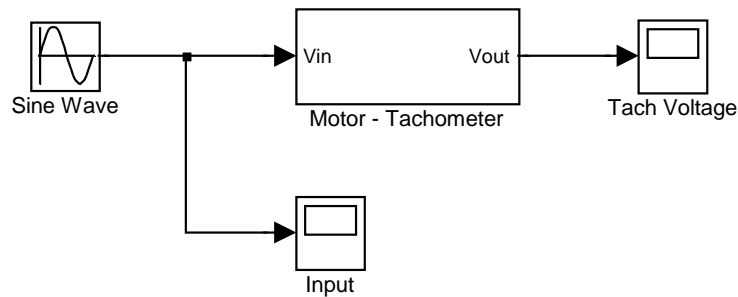
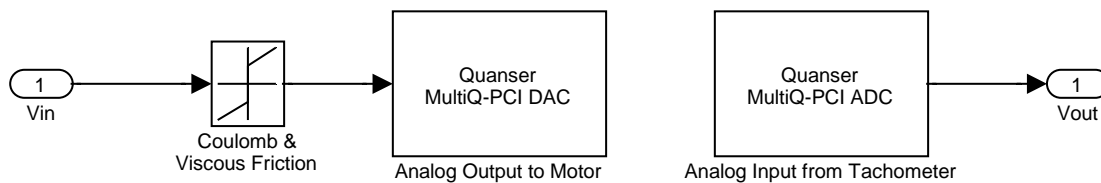

Figure 3: Block diagram for experimental frequency response of the motor-tachometer system.
Figure 4: Motor - Tachometer subsystem of the block diagram in Figure 3.
1. Build the Simulink model in Figure 3 with the subsystem shown in Figure 4.